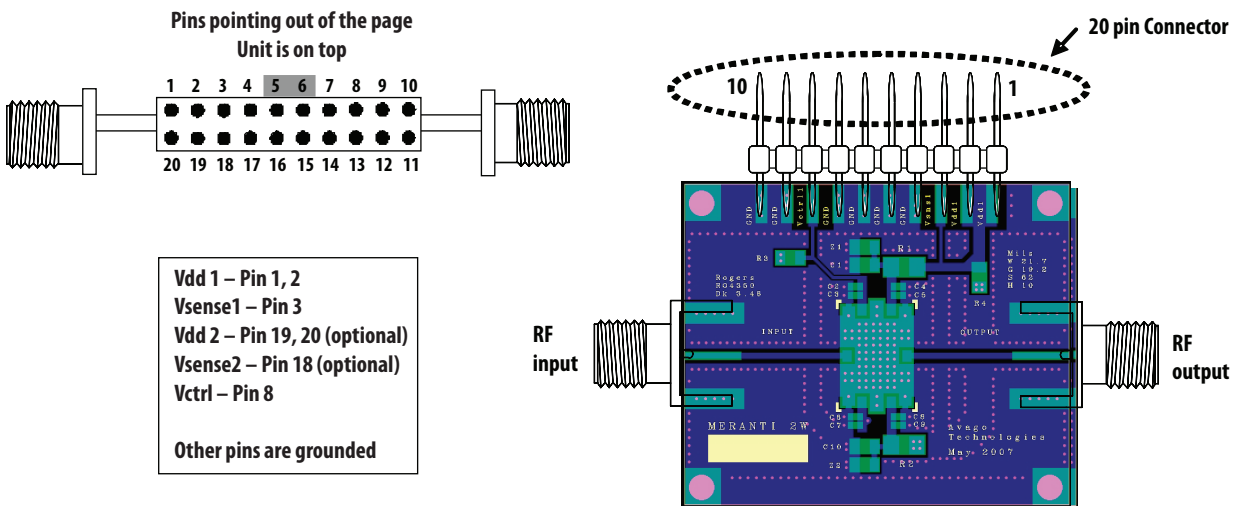

Figure 7. Demo board layout diagram
$T_A = 25\text{ }^\circ\text{C}$, $V_{dd} = 5\text{V}$, $V_{ctrl} = 5\text{V}$, RF performance at 3.5GHz, measured on demo board (see Figure 7) unless otherwise specified.
1. S-parameter is measured with reference plane at SMA end launch using demo board shown in Figure 7.